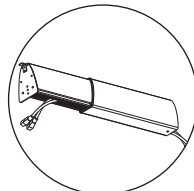
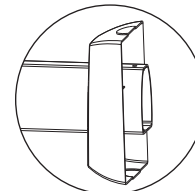
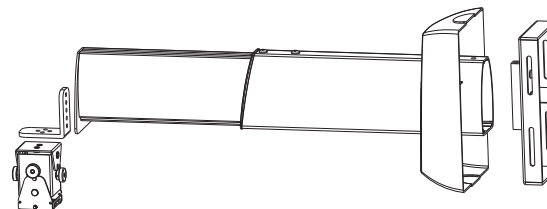
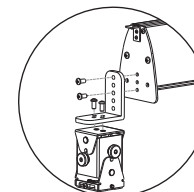

figure 1
figure 2
figure 3
figure 4
- 1 Firstly, collect the power wires to the main bar as figure 1. Invaginate the low cap to the main bar as figure 2. Install the low board to the main bar, and then fasten the screws (accessories 5) as figure 3. Finally, install the front board to the front board, and then fasten the screws (accessories 6) as figure 4.